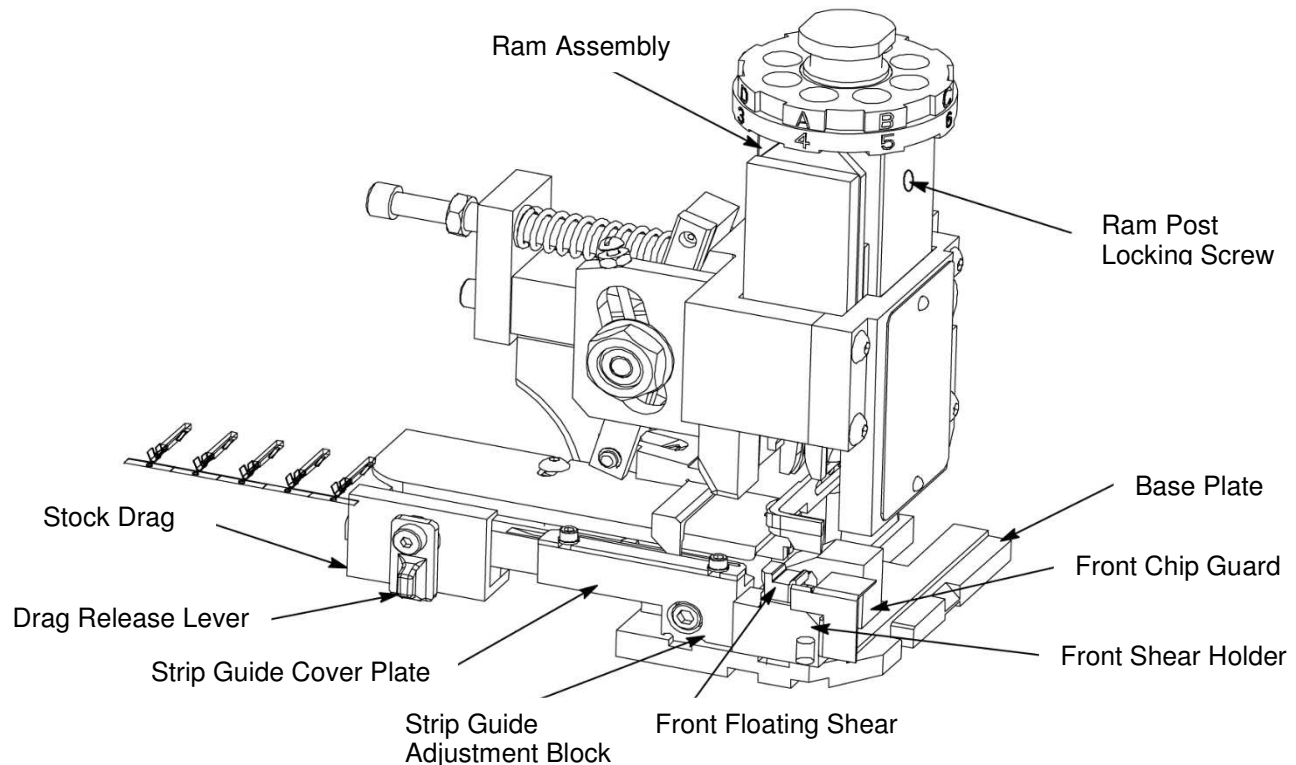
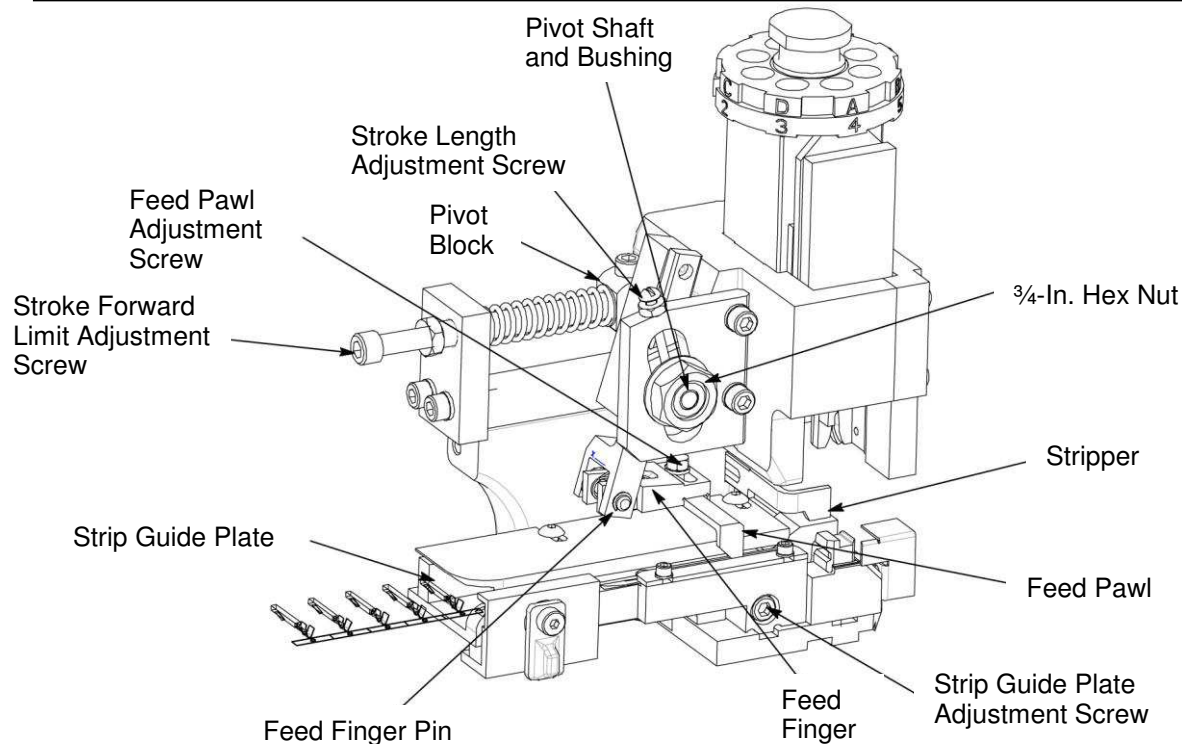
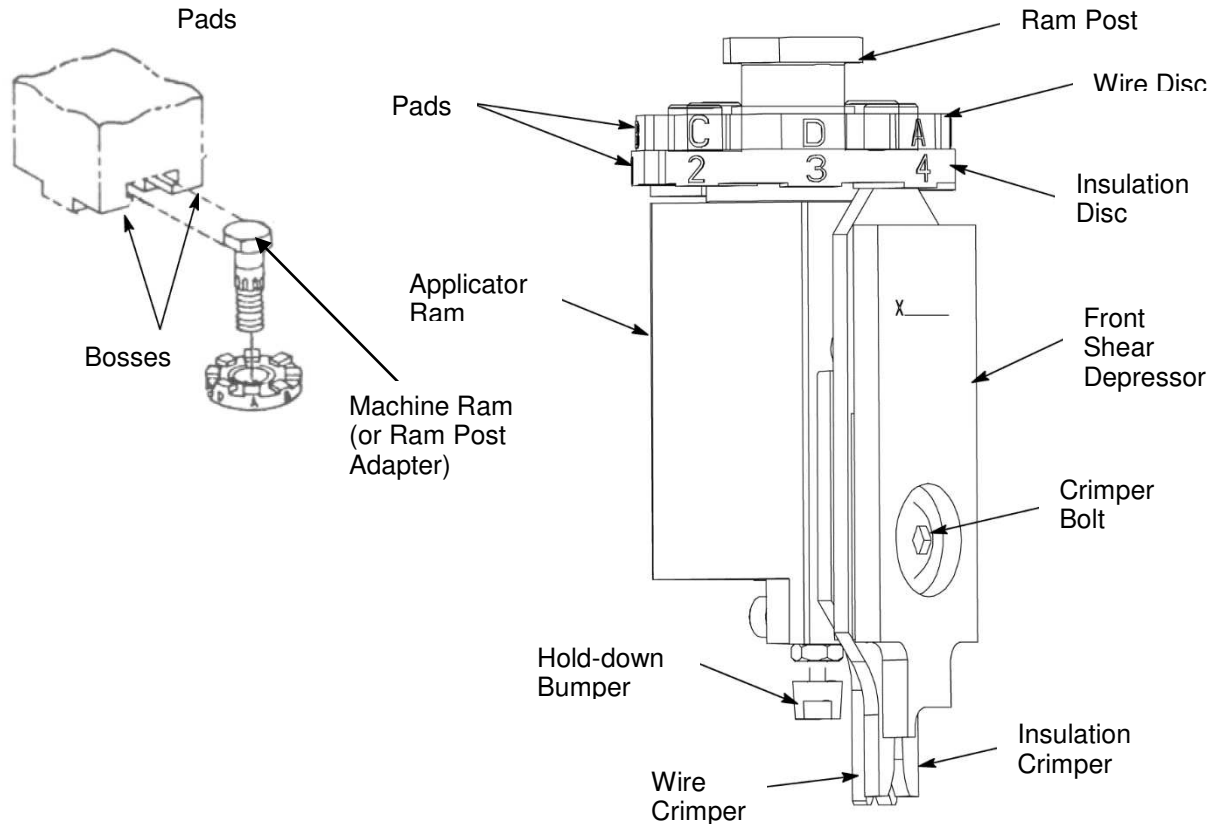
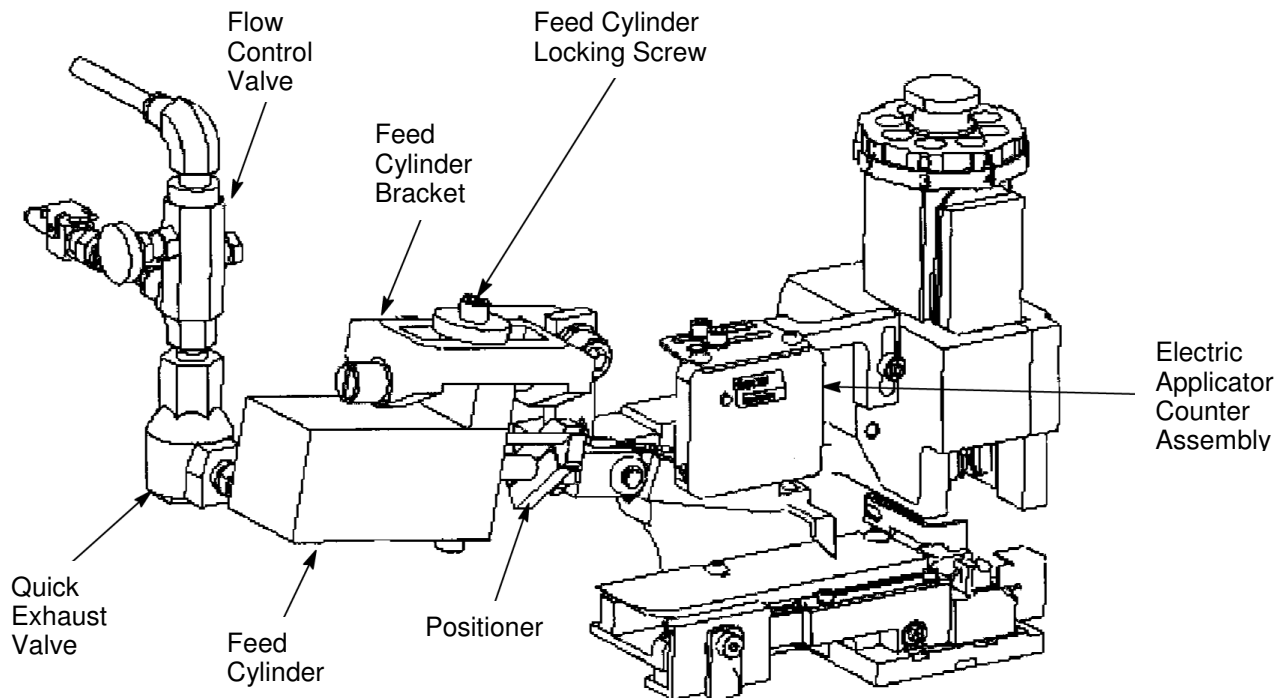

Figure 1
Figure 2
Figure 3
Figure 4
The Heavy Duty Miniature Quick-Change Applicator (side-feed type) with mechanical and air-feed systems apply side-feed strip terminals to pre-stripped wires (see Figure 1). Each applicator accepts the strip form of certain terminals, which are identified on the applicator parts list and exploded view drawing (Applicator Log) for each applicator. The terminal listed on the data plate is the one that was specified when the applicator was ordered. Some terminals have two carrier strips; others, just one.
The main components of the applicators with mechanical feed are identified in Figure 1 and Figure 2. The ram assembly is shown in detail in Figure 3.
Just below the ram post are the wire disc and insulation disc. The wire disc has as many as four pairs of pads, depending on the number of different wire sizes the terminals will accept. Each pair of pads has a different height. By rotating the disc, each pair of pads can be lined up with the two bosses on the ram post adapter (see Figure 3) to change the length of stroke of the wire crimper over the anvil. The insulation disc contains eight pads of different heights. When this disc is turned, the pads line up with the top of the insulation crimper to change the insulation crimp height.
2. Turn wire disc (upper disc) to line up selected pad letter with BOSSES ON MACHINE RAM (or RAM POST ADAPTER (reference Figure 3). This provides the right crimp height for that wire size.
3. Loosen screw on top of pivot block (see Figure 2). Turn the stroke forward limit adjustment screw COUNTERCLOCKWISE to move the forward limit toward anvil, or CLOCKWISE to move the forward limit away from anvil. Tighten screw on top of pivot block.
a. **Applicator with mechanical-feed systems** (Figure 2)
- (1) Loosen screw on top of pivot block.
- (2) Turn stroke forward limit adjustment screw COUNTERCLOCKWISE to move forward limit toward anvil, or CLOCKWISE to move forward limit away from anvil.
- (3) Tighten screw on top of pivot block.
b. **Applicator with air-feed systems** (Figure 4)
- (1) Loosen slightly the feed cylinder locking screw on top of feed cylinder bracket (see Figure 4).
- (2) Turn on-off valve to the "off" position (AMP-O-LECTRIC machine), or disconnect air supply to feed cylinder (automatic equipment). Feed finger should retract.
- (3) Turn feed adjustment screw CLOCKWISE to RETRACT forward limit or COUNTERCLOCKWISE to EXTEND forward limit of stroke.